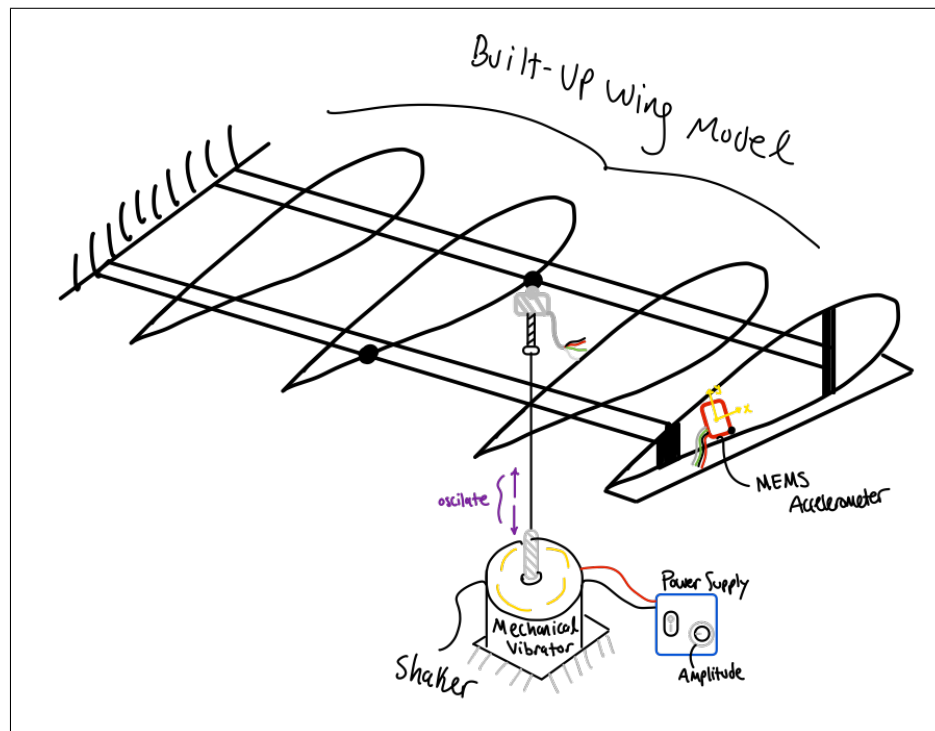
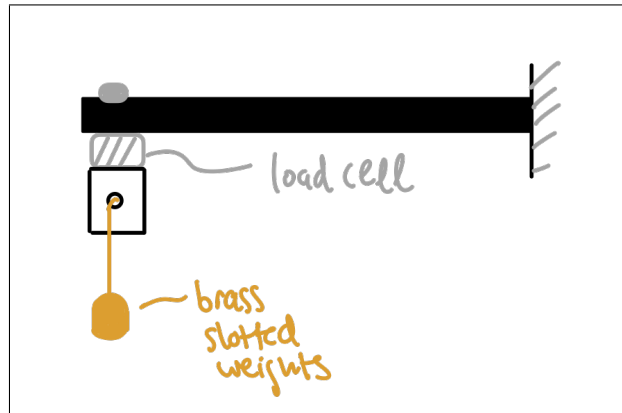
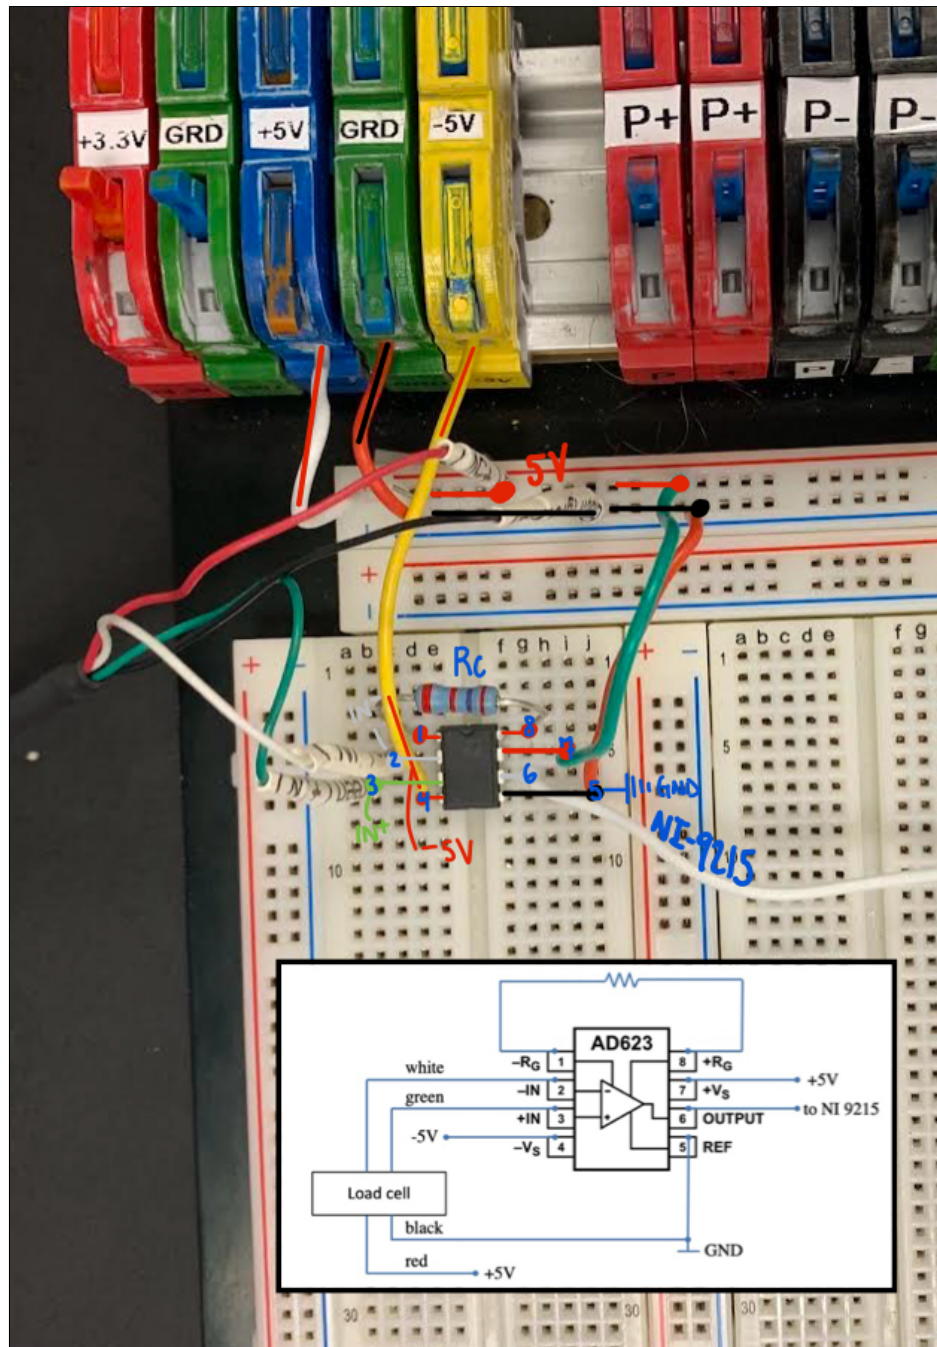

Figure 1: Built-Up Wing Model Setup, for Part 2 of this Experiment
Figure 2: Placement for Calibration of the Load Cell, for Part 1 of this Experiment
Figure 3: Load Cell Amplifier Circuit
Sensor that measures force as an electrical output. Within the load cell there are strain gages set up in a Wheatstone bridge configuration making the load cell's operating principle the variable resistance caused by application of force or deformation which is then measured as an electric signal. The load cell is calibrated in the first part of the lab as shown in Figure 2 and then placed on a rod atop the shaker to attach to the wing as shown in Figure 1.
The ADXL335 is a small 3-Axis MEMS Accelerometer which operates based on differential capacitance. An applied force or acceleration will change the capacitance within the MEMS accelerometer. In this experiment, the MEMS accelerometer is placed as shown in Figure 1, using only the Y-axis for our experiment. Operational Voltage = 3.3V
Electromagnetic shaker with driver arm capable of oscillating/vibrating at variable amplitudes and any frequency between 0.1 Hz to 5 kHz. In this experiment it is used to shake the wing model as shown in Figure 1.
1. First, with the appropriate screws and L-bracket, screw in the top of the load cell to a beam with the L-bracket screwed just underneath the load cell as shown in Figure 2. Weights will be hung on the L-bracket to calibrate the load cell.
2. Measure the gain setting resistor, R_G as shown in Figure 3.
1. Connect the MEMS accelerometer and load cell to the circuit board (amp circuit for load cell shown in Figure 3) and respective NI-9215 input modules. Ensure Shaker is connected to the NI-9263 output module to receive sinusoidal waves of different frequencies. Setup the wing model for shake testing as shown in Figure 1.